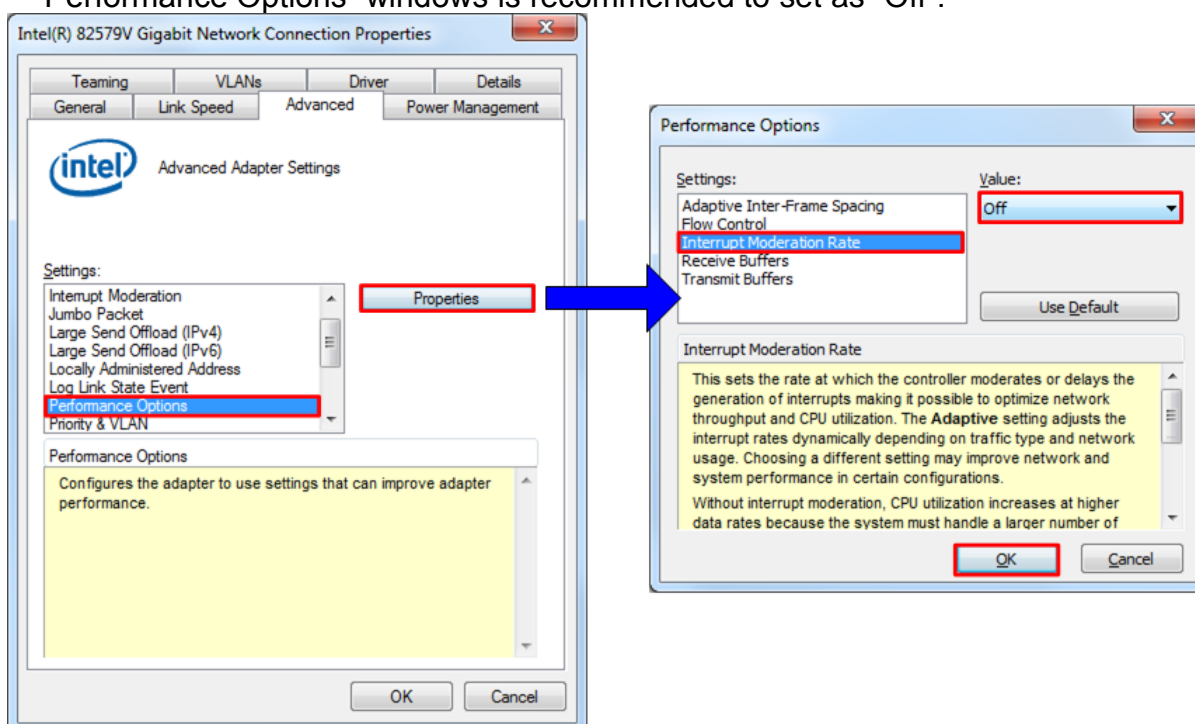

Figure 3-5 Enable Interrupt Moderation
- For Intel LAN controller, Performance Options in “Advanced” tab should be set to achieve the good performance as shown in Figure 3-5. “Interrupt Moderation Rate” in “Performance Options” windows is recommended to set as “Off”.